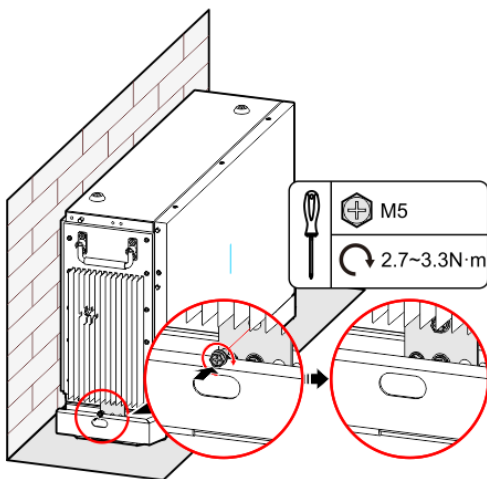

Figure3-17 Fix the bottom battery module with base
1. Fix the bottom battery module with base module by wall bracket (b), as shown in Figure3-17.